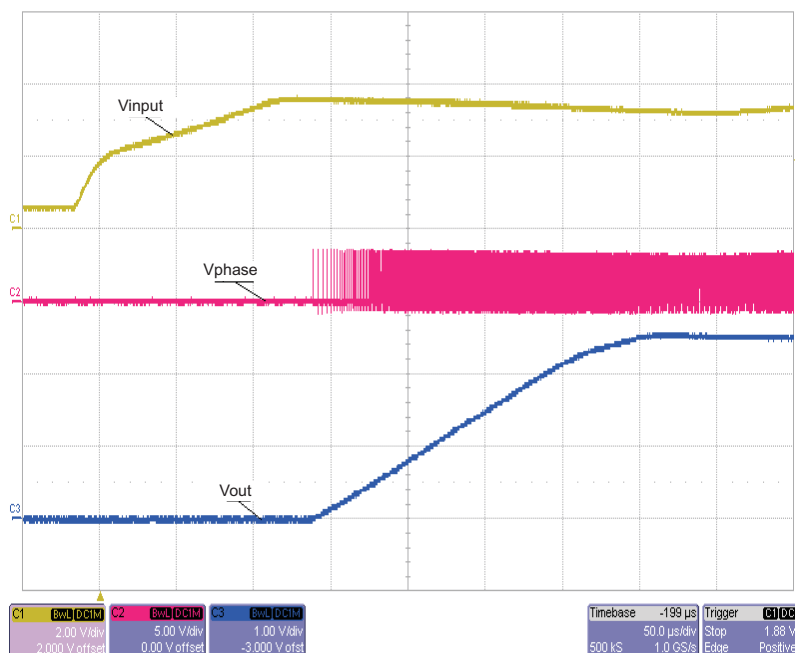
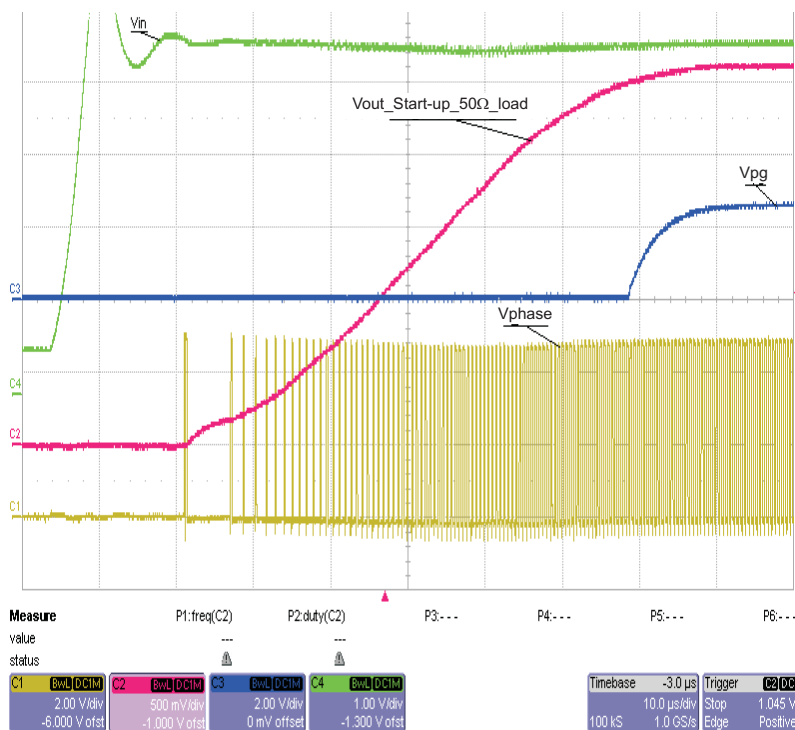

Figure 4. Start-Up in PWM/PFM Mode. Vin = 4 V, Vout = 2.5 V, Iout = 0.5 A; CH1 = Input Voltage; CH2 = Phase; CH3 = Output Voltage
Figure 5. Start-Up in PWM/PFM Mode. Vin = 5 V, Vout = 2.5 V, Iout = 0.5 A; CH4 = Input Voltage; CH1 = Phase; CH2 = Output Voltage; CH3 = PG
6. Disconnect positive lead of input supply. Set CH1 to 2 Vdc/div, CH3 to 1 Vdc/div, and time to 50 μ s/div. Set trigger to CH1, trigger level to 2 V, and arm single-sequence trigger. Hot-plug input supply. See Figure 4 for a typical power up. Figure 5 shows the timing of the PG pin applying the input hot plug.